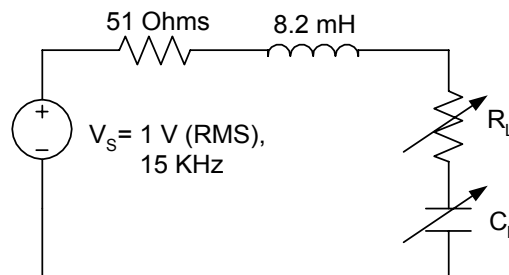

Figure 1
For the circuit shown Figure 1:
Consider Figure 1. If the source impedance has a resistive and reactive parts, the maximum power is transferred to the load (actually to the resistive part of the load) when the load resistance equal the source resistance and the load reactance is opposite to the source reactance. Namely
1. Consider the 8.2 mH inductor in the circuit of Fig. 1. as part of the source impedance. Measure its internal resistance R_i . Add 51 Ohm in addition to this resistance. This means $R_S= R_i+51$. Set the source voltage to a sinusoid of 1 V r.m.s and frequency of 15 KHz.